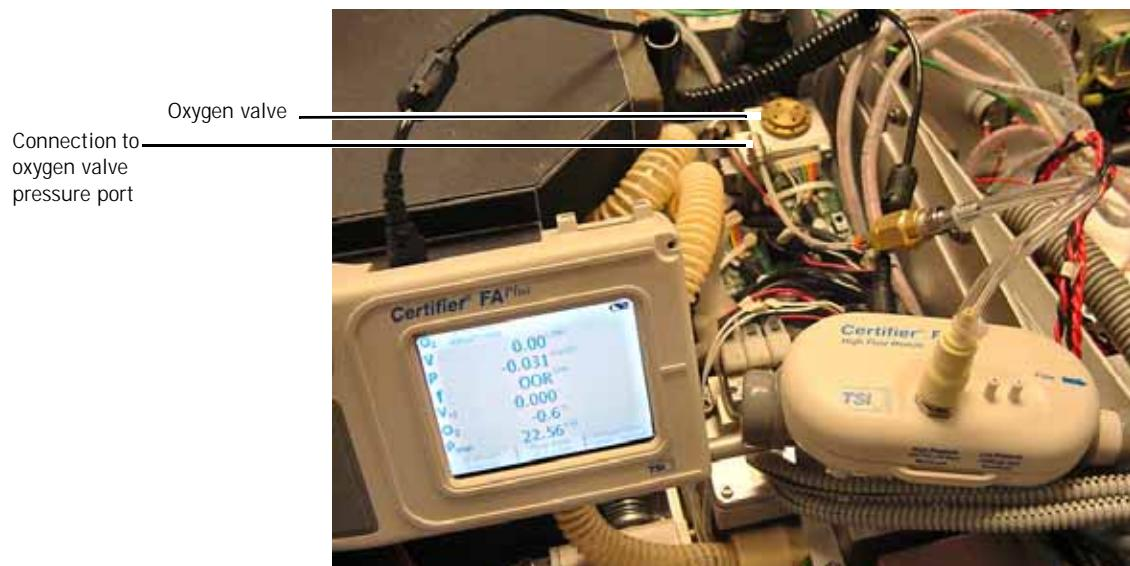

Figure 5-11: Oxygen High Pressure Connection
4. Connect the gauge to the oxygen valve pressure port (Figure 5-11).